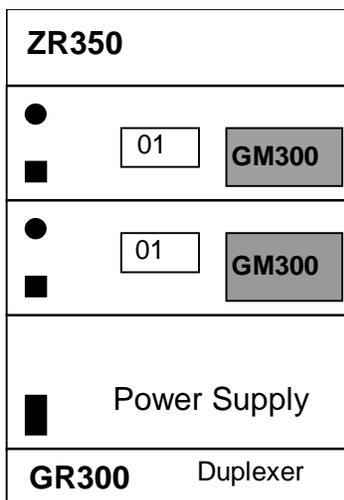

Figure 1-1 ZR350 Installed in GR300 Repeater Station
- Quick interfacing to Motorola Radius GM300 radios (up to 40 watts) using purpose made cables. Designed to fit into the accessory slot in the Motorola Radius GR300 or GR500 Repeater Station cabinets (see Figure 1-1).